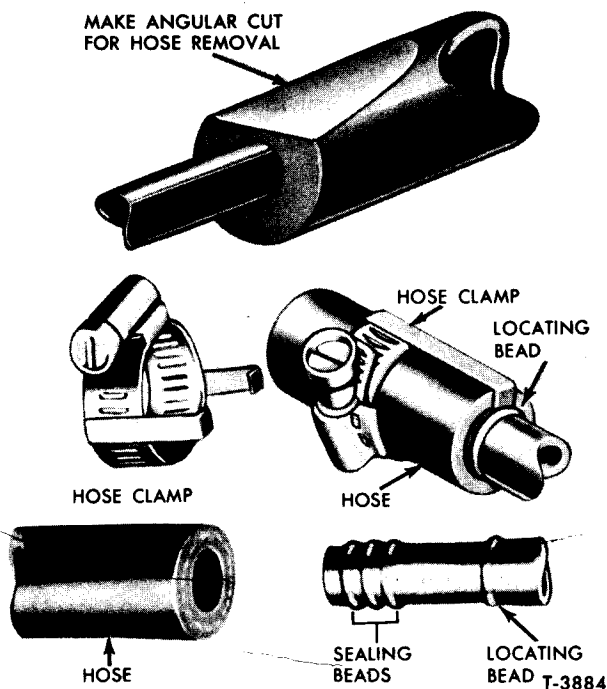

Figure 59—Hose Clamp Connections
1. Carefully, with a sharp knife, make an angle cut in the hose as shown in figure 59. This should loosen the hose so that it may be worked off the fitting.